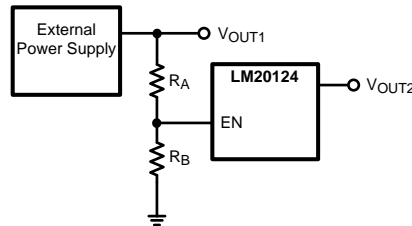

Figure 29. Sequencing LM20124 with Precision Enable
The LM20124 has a built-in under-voltage lockout protection circuit that keeps the device from switching until the input voltage reaches 2.7V (typical). The UVLO threshold has 45 mV of hysteresis that keeps the device from responding to power-on glitches during start up. If desired the turn-on point of the supply can be changed by using the precision enable pin and a resistor divider network connected to V_{IN} as shown in Figure 29 in the design guide.
The precision enable (EN) and power good (PGOOD) pins of the LM20124 can be used to address many sequencing requirements. The turn-on of the LM20124 can be controlled with the precision enable pin by using two external resistors as shown in Figure 29.